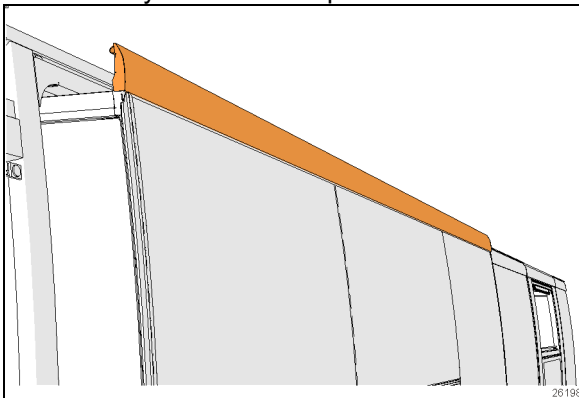
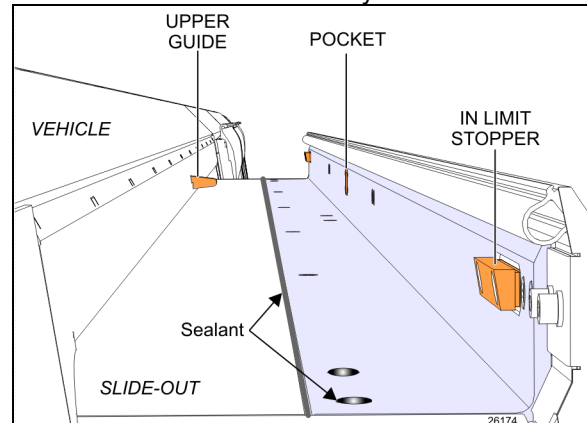

FIGURE 19: TOP EXTRUSION
FIGURE 30: EXTERIOR EXTRUSION
2. Turn the ignition to the off position. Using the manual override procedure (Paragraph 5), extend the slide-out a few inches so the exterior extrusion screws located on the top of the slide-out are accessible from outside (Figure 30).
8. Using a knife, cut the sealant between the Top extrusion and the roof. (Figure 19, Figure 30)
9. Remove the top exterior extrusion screws and the two end caps (Figure 19)
14. Once completed, use the manual override procedure to extend the slide-out and reinstall the exterior extrusion. Apply appropriate sealant on the exterior extrusion screws and between the extrusion, the roof and the edges to prevent water infiltration (Figure 30).